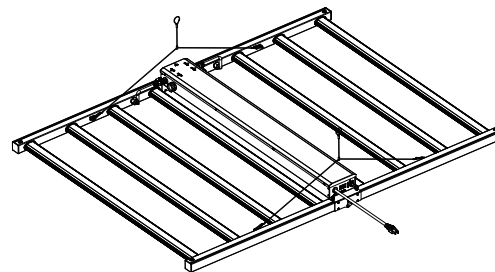

Figure 5
- 5: Open the accessory package, find the wire sling, and hang it on the lifting buckle with the hook above.(Figure 5)